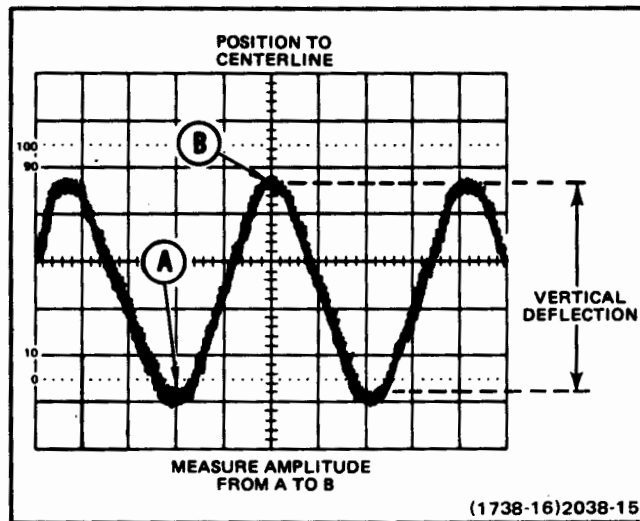

Figure 14. Peak-to-peak waveform voltage.
2. Ensuring that the VAR VOLTS/DIV control is in the calibrated detent, vertically position the display so that the negative peak of the waveform coincides with one of the horizontal graticule lines (see Figure 14, Point A).
3. Horizontally position the display so that one of the positive peaks coincides with the center vertical graticule line (see Figure 14, Point B).
4. Measure the vertical deflection from peak to peak (see Figure 14, Point A to Point B).
**EXAMPLE:** The measured peak-to-peak vertical deflection is 4.6 divisions (see Figure 14) with a VOLTS/DIV switch setting of 0.5, using a 10X scale-factor-switching probe.